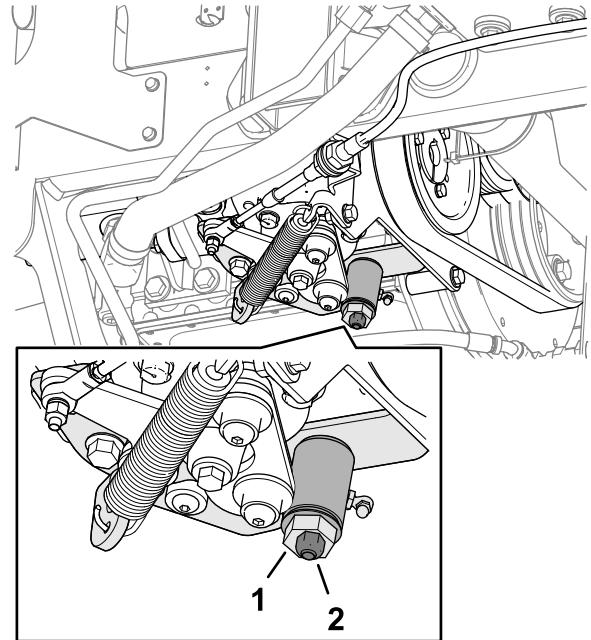

Figure 80
3. Loosen the locknut on the traction adjustment cam (Figure 80).